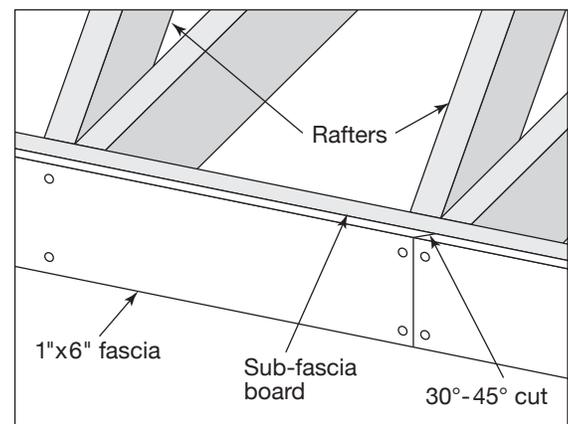

Fig. 6
- When using TruExterior Trim as fascia, a sub-fascia is required (**Fig. 6**)